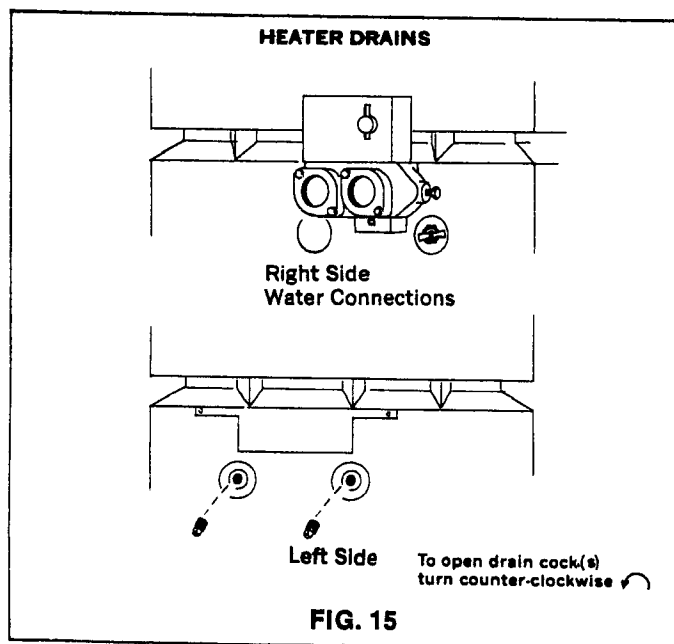

FIG. 15
**CAUTION:** In areas where freezing weather occurs drain heater before first frost. Shut off all gas valves. Drain the heater by opening the drain cock(s), and removing all drain plugs. (See Fig. 15).